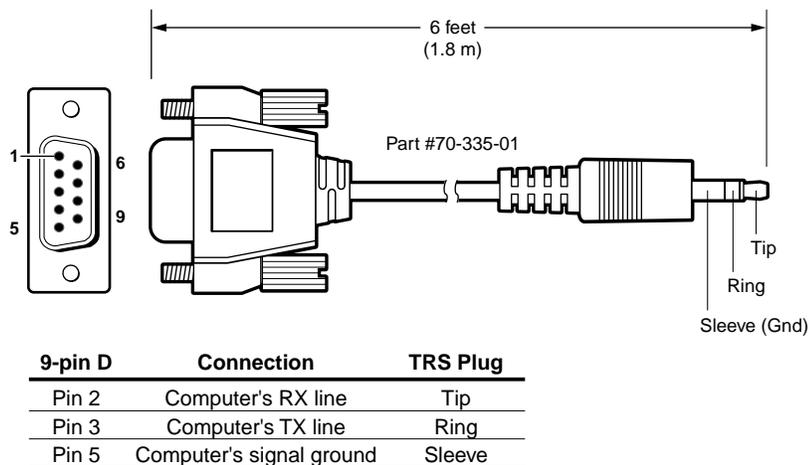

Figure 2-26 — Optional 9-pin TRS RS-232 cable
- 13** Configuration port — This 2.5 mm mini stereo jack serves the same serial communications function as the rear panel RS-232/RS-422 port, but it is easier to access than the rear port after the matrix switcher has been installed and cabled. The optional 9-pin D to 2.5 mm mini jack TRS RS-232 cable, part #70-335-01 (figure 2-26), can be used for this connection.